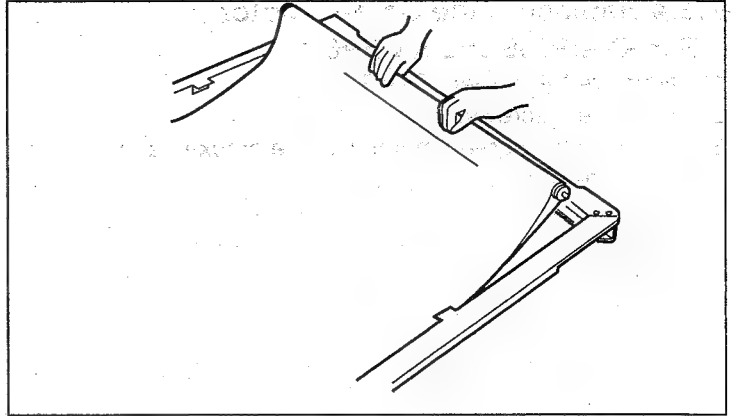

Fig. 7-26
- 7) Insert the roller into the screen (film), then hook the roller shaft as shown in Fig. 7-26